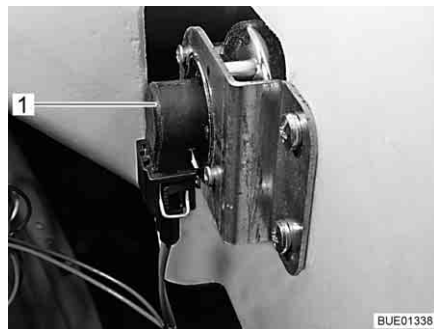

Fig. 257 Direction indicator
- Put your hand behind the lamp holder (Fig. 257,1).